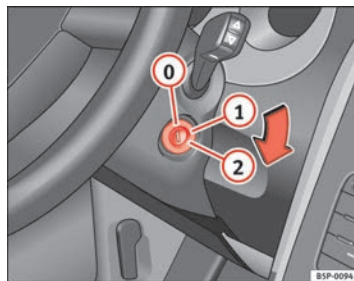

Fig. 138 Ignition key positions
In this position \Rightarrow fig. 138 the ignition and the engine are OFF and the steering may be locked.
- Turn the ignition key to position ⇒ page 166, fig. 138 ①. The indication lamp  will light for engine pre-heating.
- When the warning lamp turns off, turn the key to position ② to start the engine. Do not press the accelerator.
- Turn the ignition key to position ⇒ page 166, fig. 138 .